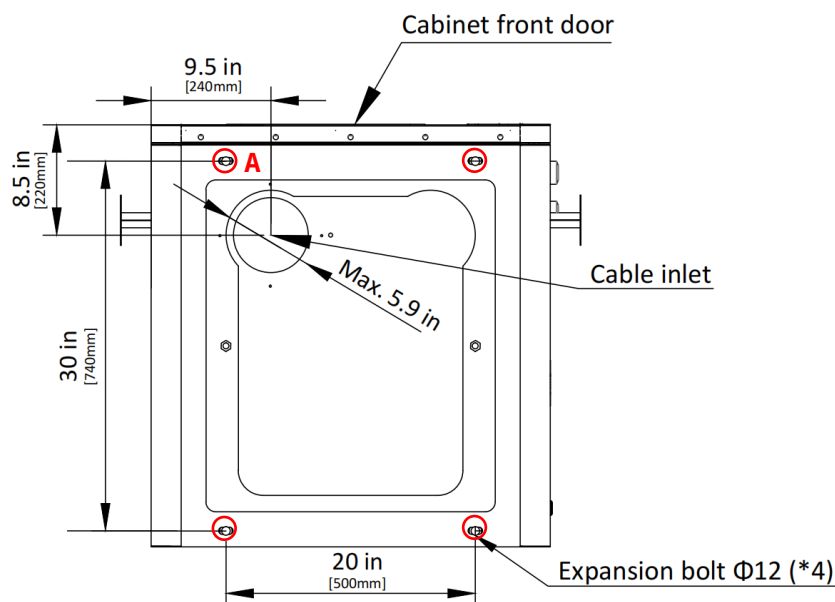

Figure 4.3 Drill Screw Holes for Expansion Bolts Fixing the Charger
- The inlet for the duct at the bottom of the charger is **round shaped** with a **maximum 5.9 inches** diameter to fit 5-inch conduit (also see **Figure 4.3** on page 22). **Additional smaller diameter rings are available** at **TCHARGE®** for adjusting the inlet diameter. Please **contact TCHARGE®** (including that **contact in advance to add the request into your purchase order**) for ordering the cable inlet size that best fits your conduit.
- 1) On the top surface of the concrete foundation (prepared in **Part 4.1**), drill holes for the **M-12 expansion bolts** that would be used to fix the charger to the foundation. Refer to **Figure 4.3** below for relative positions of the holes (red circles):